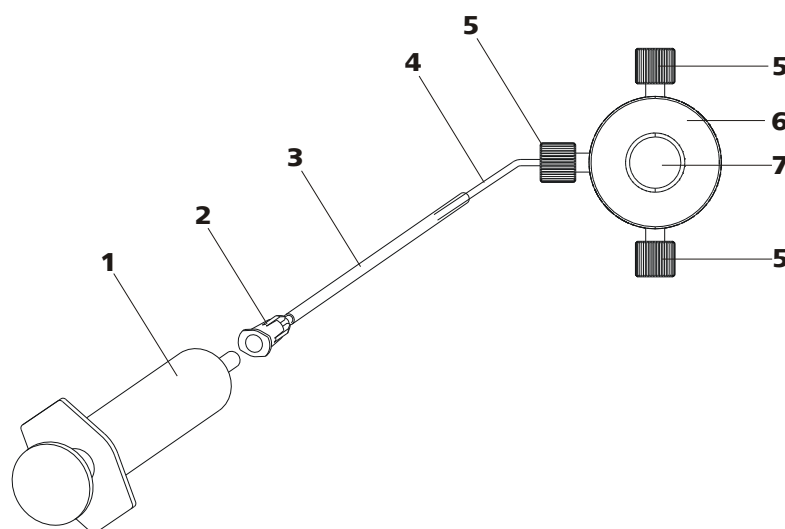

Figure 18 Deaerate the high pressure pump
Deaerate the high pressure pump as follows (see figure 18, page 35):
- Insert syringe (18-1) in the Luer connector (18-2) of the purging needle (see figure 18, page 35).